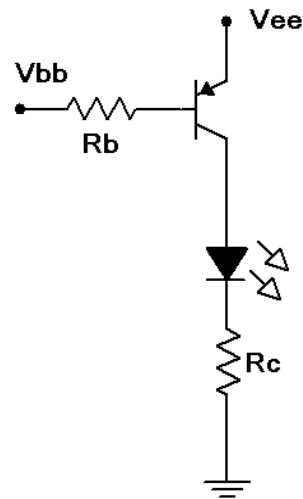

Figure 2
6. Consider the PNP saturating switch of Figure 2 using $V_{EE} = V_{BB} = 5$ volts, $R_B = 4.7\text{ k}\Omega$ and $R_C = 220\text{ }\Omega$. Calculate the base and collector currents and record them in the first row of Table 3 (Theory). As the circuit is in saturation, the theoretical V_{CE} is close to zero and may be found on the transistor data sheet via the V_{CE}/I_C saturation graph. Record this value in the first row of Table 3 as well.
7. Build the saturating switch of Figure 2 using $V_{EE} = V_{BB} = 5$ volts, $R_B = 4.7\text{ k}\Omega$ and $R_C = 220\text{ }\Omega$. Measure and record the base and collector currents, and record the collector-emitter voltage in the first row of Table 3 (Experimental). Also compute and record the deviations between theory and experimental results.